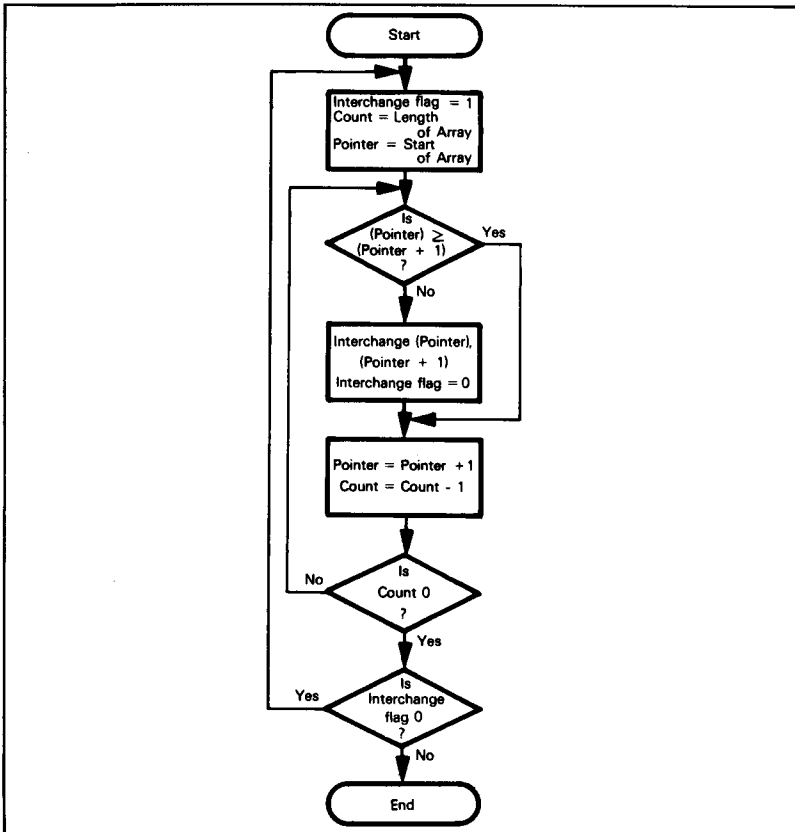

Figure 14-6. Flowchart of Sort Program
**Initial Program** (from flowchart in Figure 14-6):